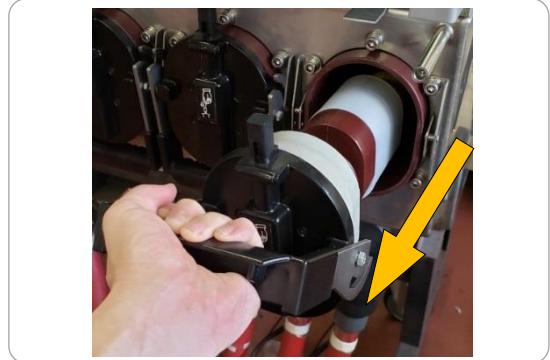

Figure 33. Holder withdrawal (③)
- ③ Withdraw the fuse straight without rotating the fuse holder. [Figure 33]